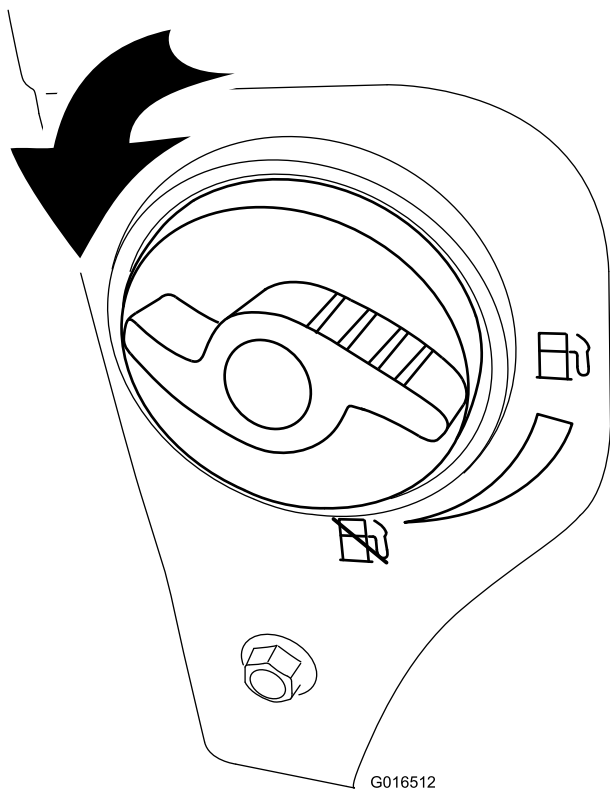

Figure 16
2. Turn the fuel-shutoff valve 1/4 turn counterclockwise to open it (Figure 16).